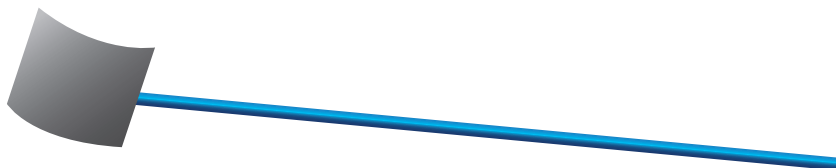

Figure 3. Test Mat
- 6.2 Simulate entrapment by completely plugging off the open suction inlet using a ball, butterfly or a sliding gate valve installed within 2 feet upstream from the pump. You can also simulate entrapment by completely plugging off the open suction outlet / inlet using a 10"X10" rubber mat attached to a long pole or equivalent (See Figure 3). If a mat is used, pull & slide the mat off.